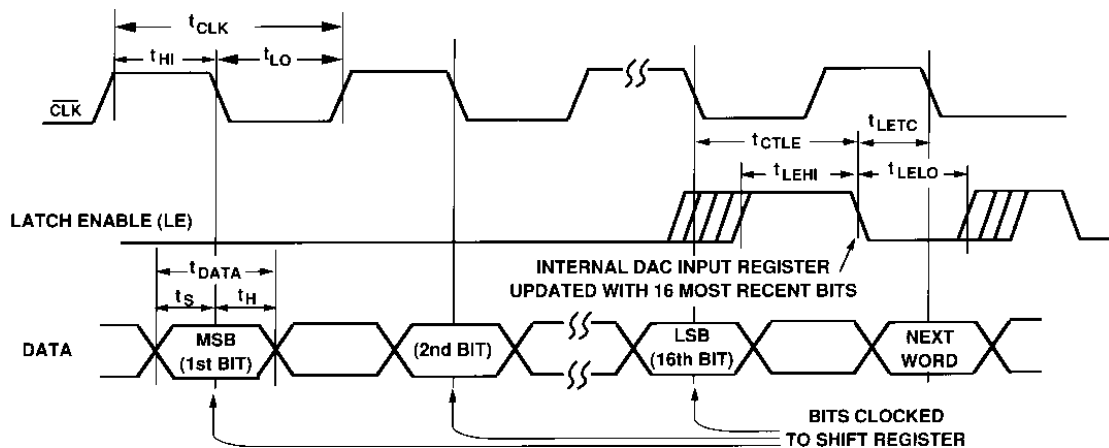

Figure 2. AD766 Serial Input Timing
Serial input data is clocked into the AD766's shift register by the falling edge of CLK. Data is presumed to be in twos complement format with MSB (i.e., the sign bit) clocked in first. The shift register converts the most recently clocked-in 16 bits to a parallel word. The falling edge of the latch enable (LE) signal causes the most recent parallel word to be transferred to the internal DAC input latch. See Figure 2 for detailed serial port timing requirements.